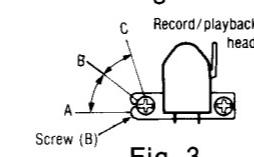
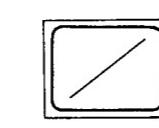

Fig. 3
Fig. 6
2. Playback the 8kHz signal from the test tape (QZZCFM). Adjust screw (B) in fig. 3 for maximum output L-CH and R-CH levels. When the output levels of L-CH and R-CH are not at maximum at the same point adjust as follows.
3. Turn screw (B) shown in fig. 3 to find angles A and C (points where peak output levels for left and right channels are obtained). Then, locate angle B between angles A and C, i.e., and point where L-CH and R-CH outputs are balanced. (Refer to figs. 3 and 4).
5. Playback the 8kHz signal from the test tape (QZZCFM). Adjust screw (B) shown in fig. 3 so that pointers of the two VTVMs swing to maximum and a lissajous waveform as illustrated in fig. 6 is obtained on the oscilloscope.